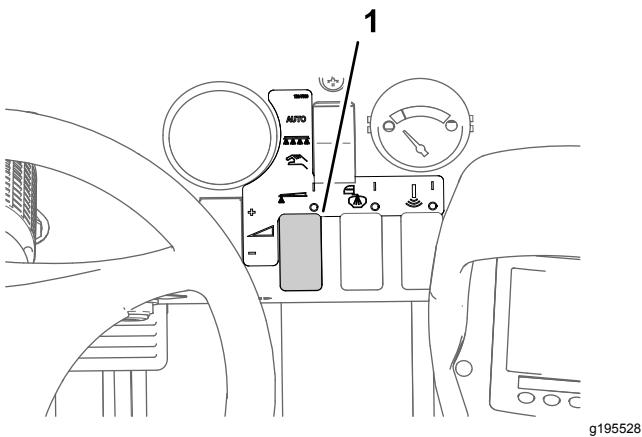

Figure 44
8. Use the application-rate switch to achieve the desired spray pressure as indicated in the nozzle-selection guide provided with the sprayer (Figure 44).